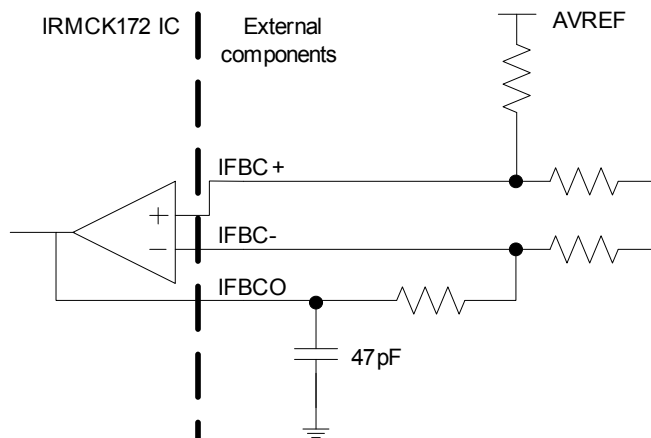

Figure 4 A capacitor of 47pF is recommended at the output pin of all op amps.
- (1) Data guaranteed by design.
- (2) To guarantee stability of the operational amplifier, it is recommended to load the output pin by a capacitor of 47pF, see Figure 4. Here only the single shunt current amplifier is show but all op amp outputs should be loaded with this capacitor.